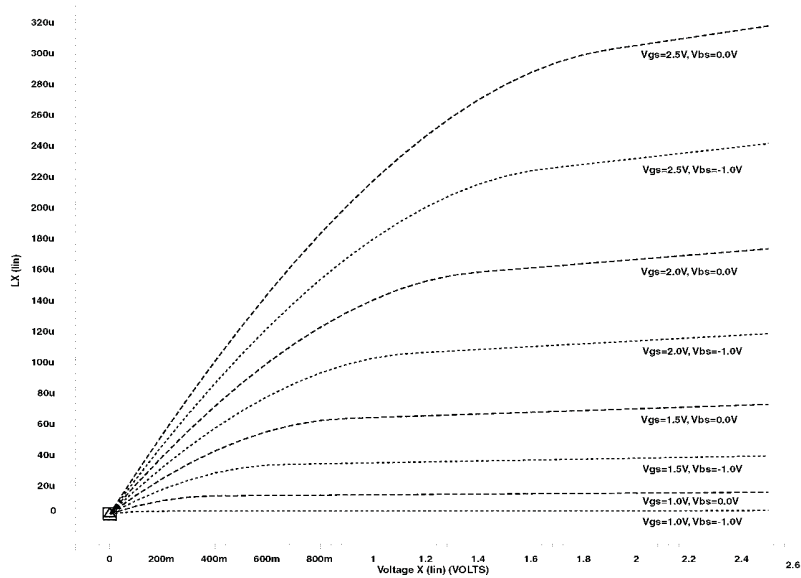

Figure 0.8 I-V curves
12. [E, None, 3.3.2] Below in Figure 0.8 is an I-V transfer curve for an NMOS transistor. In this problem, the objective is to use this I-V curve to obtain information about the transistor. The transistor has $(W/L)=(1\mu/1\mu)$. It may also be assumed that velocity saturation does not play a role in this example. Also assume $-2\Phi_F = 0.6V$. Using Figure 0.8 determine the following parameters: device V_{TO} , γ , λ .